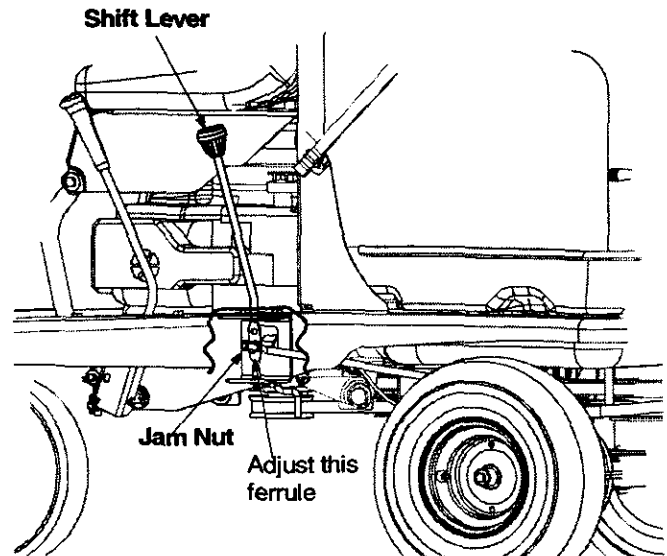

Figure 24
3. Remove hairpin clip and washer securing ferrule to the shift rod. See Figure 24 . Loosen the jam nut.
7. Move shift rod to (N) and check for correct adjustment.